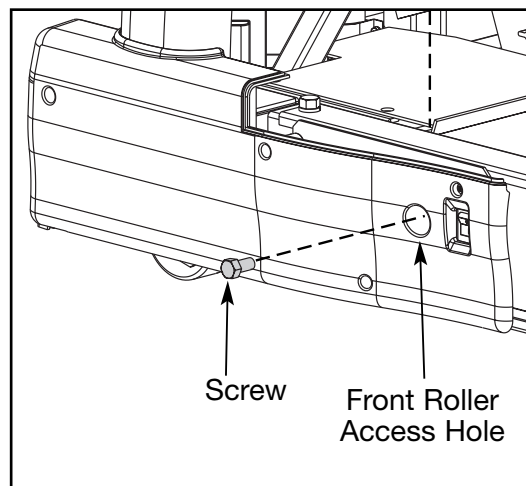

Figure 8
- A.** Place a 9/16" socket wrench with a 3" extension in the right front roller access hole. Loosen but do not remove the right front roller screw. See Figure 8. **NOTE:** The right screw will stay on the front roller. You do not need to remove it for this procedure.
- B.** Place a 9/16" socket wrench with a 3" extension in the left front roller access hole. Remove the left front roller screw. See Figure 8. **NOTE:** Leave the front roller in place until step 9B.
- B. Using a 9/16" socket wrench with a 3" extension, remove the two front roller screws. See Figure 8.
B. Using a 9/16" socket wrench with a 3" extension, insert the two screws that fasten the front roller to the frame. **NOTE:** Tighten each of the two screws evenly, making sure not to tighten one screw too many turns before moving to the other screw. See Figure 8.